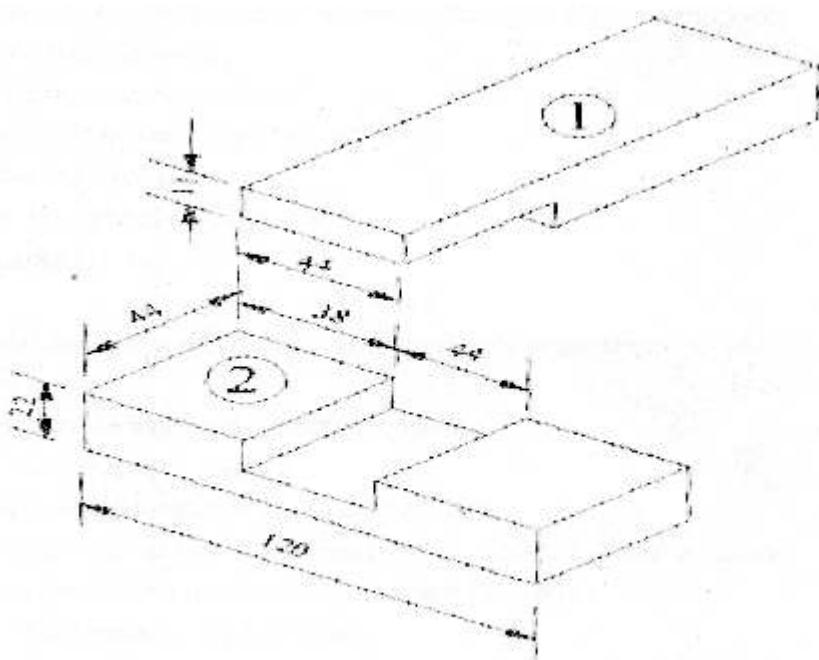

Fig. 2
Q.12 The detail drawing of two parts of T halving joints is shown in Fig.2. Read the drawing carefully and draw assembled.